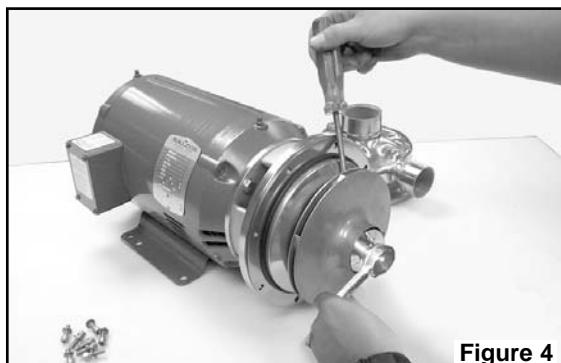

Figure 4
8. Insert a screwdriver in one of the impeller waterway passages, as shown in Figure 4, and back off the impeller retaining assembly with a socket wrench.